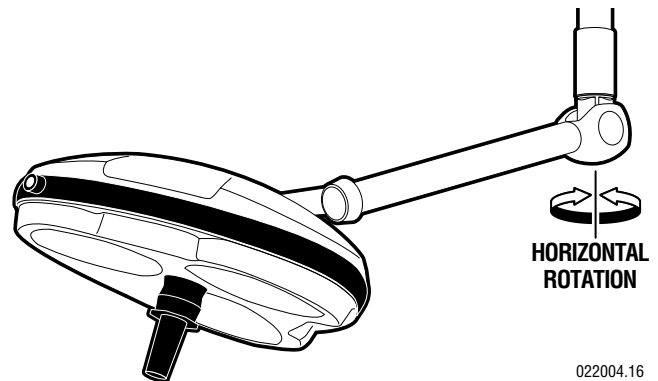

Figure 4-9. Horizontal Rotation
a. Check horizontal rotation axis adjustment by moving the lighthead through its full range of travel around the Balance Mechanism. See figure 4-9.